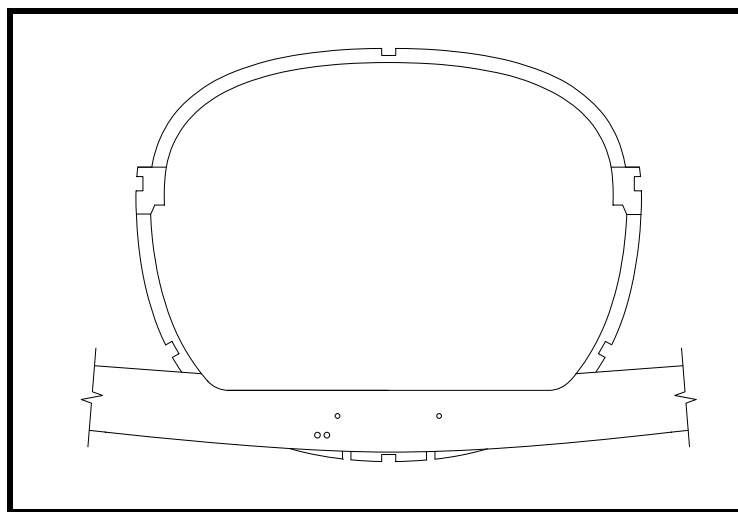

Figure 16
- ❑ Drill the 3/8"Ø holes for the rudder cables in fuselage frame No. 3. See Figure 16. Locate the holes as shown on Drawing No. 206. The hole should be angled up and forward at 11° from horizontal. You can see the angle of the cable on Drawing No. 122.